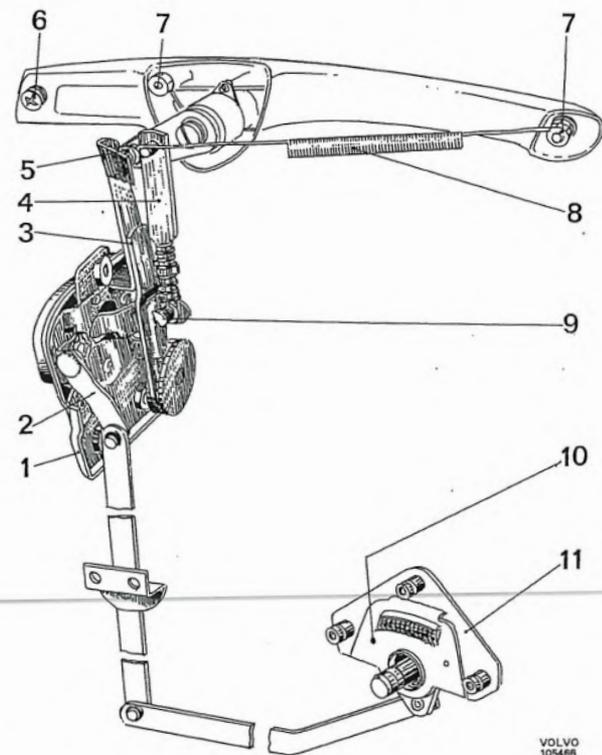
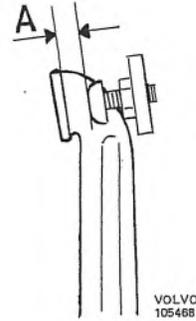

Fig. 8-18. Door lock with remote control
Fig. 8-21. Clearance between lock handle control lever and door lock lever
4. Remove the lock (9, Fig. 8-18) for the lever between the lock and the outer handle.
7. Remove the lock handle by unscrewing the screw (6) and nuts (7, Fig. 8-18).
3. Fit the connection link (4, Fig. 8-18) and the spring (8). Adjust the length of the link by screwing on the spring at the lower end of the link so that the lock handle control arm meets the lock lever (3) in the unlocked position.
4. Check or adjust if necessary the clearance between the lock handle control lever and the door lock lever (Fig. 8-21). The clearance should be 1-2 mm (1/16"). Adjust with the screw (5, Fig. 8-18).
5. Tighten the remote control lever so that the spring in the control is compressed, and lock the control in this position by placing a split pin in the hole (10, Fig. 8-18).